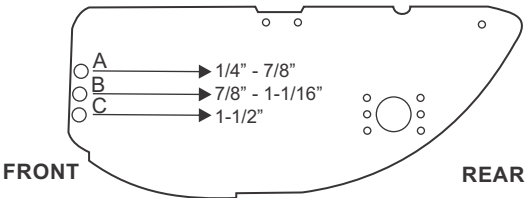
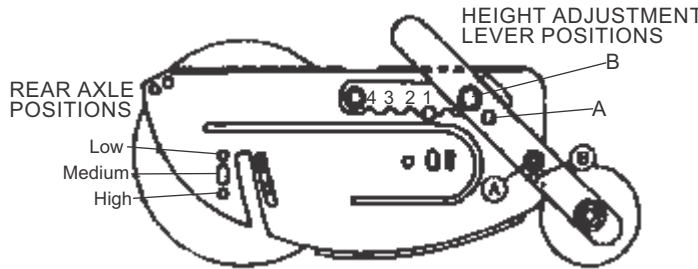

FIGURE 9: Use the front wheel assembly cutting height adjustment holes and height adjustment lever to set the cutting height of the mower.
FIGURE 10: Rear axle positions; height adjustment lever positions
Three holes in the mower side panels (see Figure 9) allow the position of the front wheel assembly bar to be changed to obtain the desired cutting height range.
Once the desired cutting range is set, the cutting height adjustment lever (see Figure 10) is placed in one of four preset positions (notch 1 through notch 4) to select the desired cutting height (see Table 1).
NOTE: When changing the position of the front wheel assembly, the “pivot point” locations of the cutting height adjustment lever must also be changed. When using adjustment hole “A” of “B” hole in the side panel (see Figure 9) for the front wheel assembly position, the “pivot point” locations for the cutting height adjustment lever (see Figure 10) must also be changed to the “A” of “B” positions, as appropriate. When using adjustment hole “C” in the side panel, the cutting height adjustment lever “pivot point” locations should be placed in position “B”.
The mower is shipped with rear axle in the middle (medium) position, and the cutting heights listed in Table 1 are achieved with the axle in this position. The rear axle must be lowered or raised (see figure 10) to obtain the .375" and 2.5" cutting heights.
4. Remove eight retainer bolts (12). Loosen eight hanger bolts (13).
5. Move the rear axle outward until the retainer bolt hole aligns with the high hole in the sideplate (see Figure 10).
6. Replace and tighten eight retainer bolts (12). Tighten eight hanger bolts (13).
7. Replace sideplate chain (21) and clutch drive chain (15).